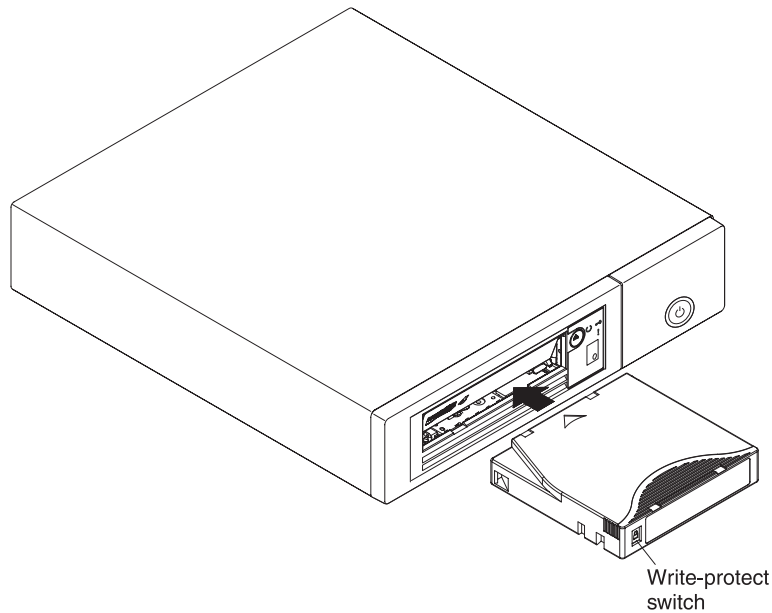

Figure 8. Inserting a cartridge into the drive
3. Grasp the cartridge so that the write-protect switch faces you (see Figure 8 on page 22).